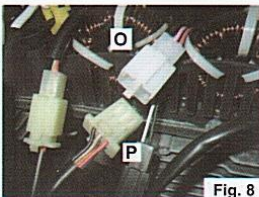
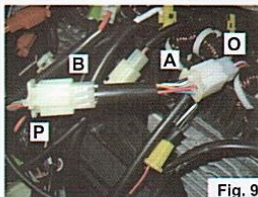

Fig. 8
Fig. 9
7. Disconnect the white plug from the remote receiver wire (Fig. 8, O & P), and install the white jumper wire from the cold start kit to both of those connectors (Fig. 9—A connects to O, and B connects to P).